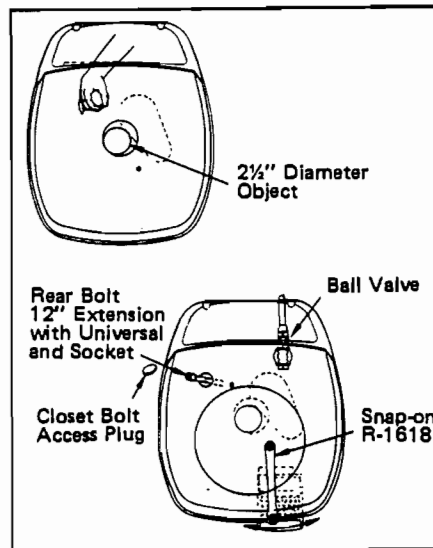

Fig. 1
3. Rear Bolt Nut: You assemble the rear closet bolt flange nut by reaching your right hand through the rear access hole (shown in Fig. 1). The header points on the closet bolts will help start the nut. Tighten the nut until the base of the toilet contacts the floor.
NOTE: If the space around the toilet does not permit the above method, access to the rear nut can be gained by removing the access plug (Shown in Fig. 1). Plug is removed by pressing down on the plug's edge closest to the bowl. You assemble the rear closet bolt flange nut by reaching through the access hole with a socket, a universal and a 12" extension. The flange nut may be held in the socket with a small dab of sealer.